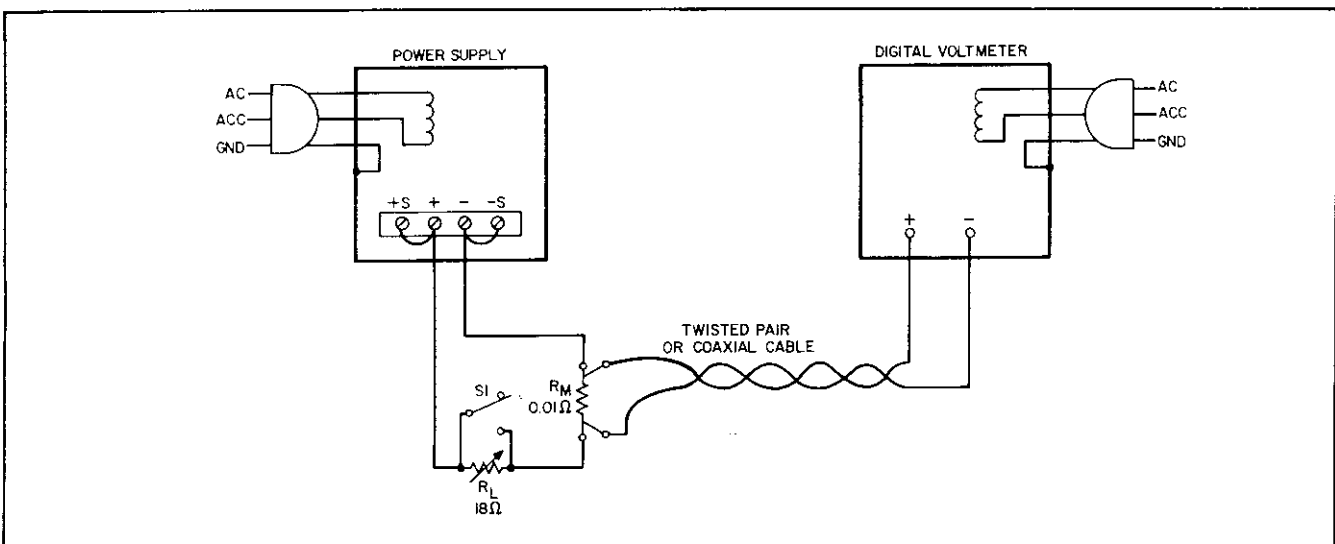

Figure 5-7. Constant-Current Test Setup
- a. Connect test setup shown in Figure 5-7. Set R_L to minimum resistance initially.
- a. Connect test setup shown in Figure 5-7.